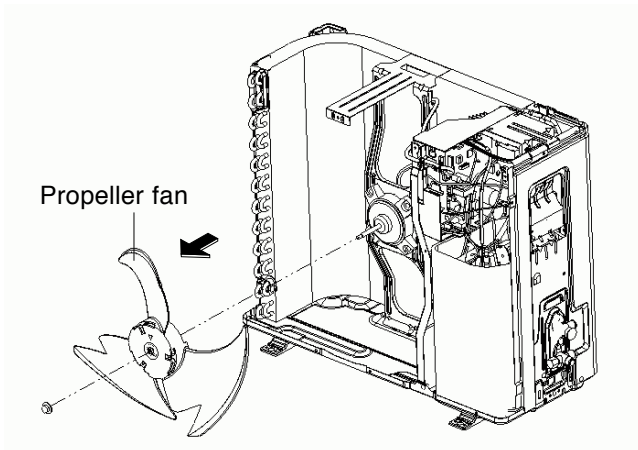

Fig. 57
(1) Remove the screw of the fan and then remove the propeller fan. (Fig.57)